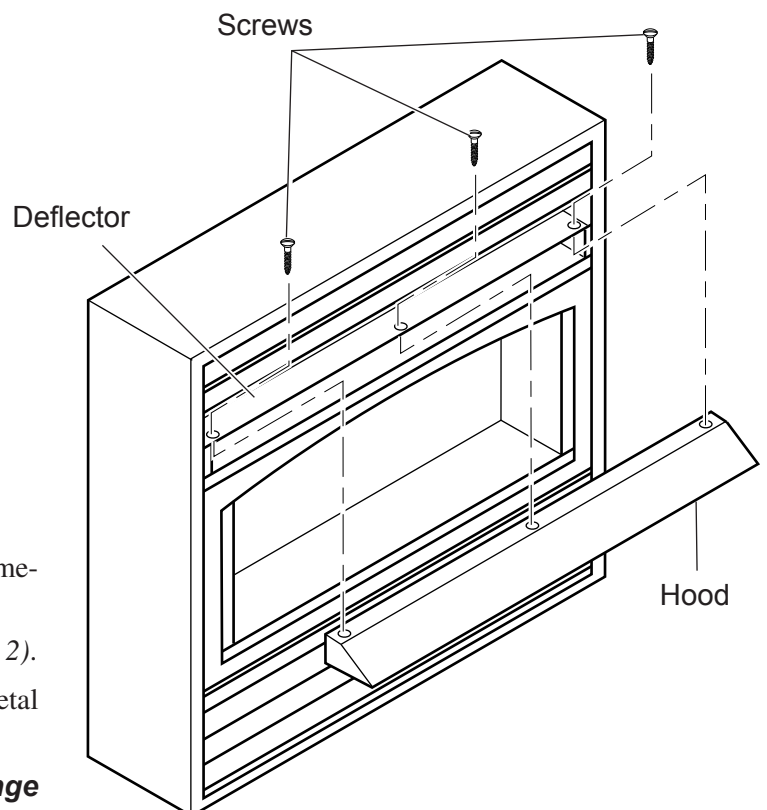

Figure 2 - Installing Hood
2. Locate three (3) black sheet metal screws inside homeowner's manual pack.
3. Place hood on deflector and line up holes (*see Figure 2*).
4. Secure hood to deflector with three (3) black sheet metal screws.